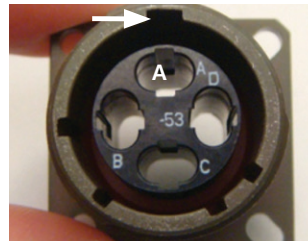

Figure 67: Front view with connector keyway
- On the front side of the connector identify the connector main key keyway (Figure 67).